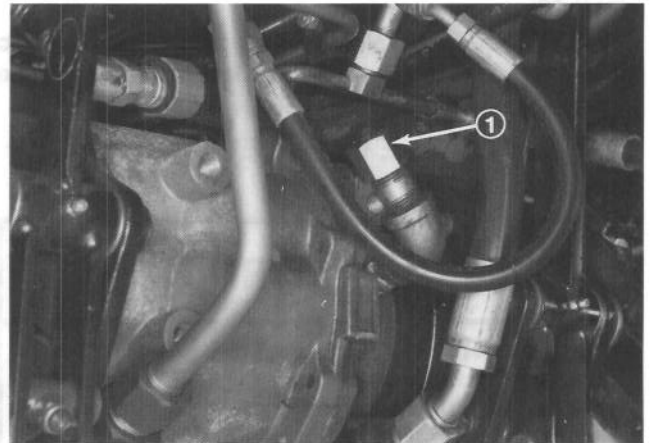

Figure 17
3. Unscrew dipstick cap (Fig. 17) from the filler neck and wipe it with a clean rag. Screw dipstick cap finger tight onto filler neck. Unscrew the dipstick and